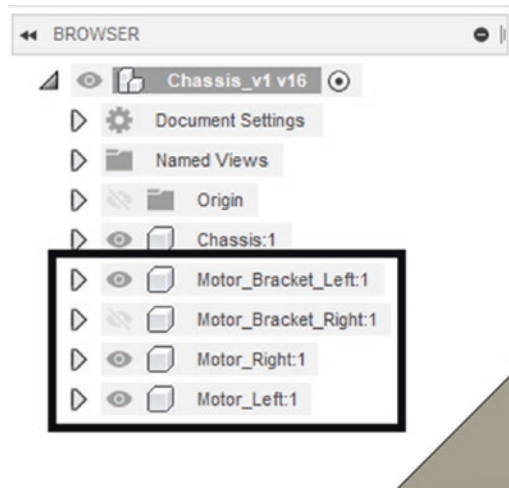

Figure 6-60. Create four more components
18. Create a few more components named Motor_Bracket_Left, Motor_Bracket_Right, Motor_Right, and Motor_Left. See Figure 6-60.